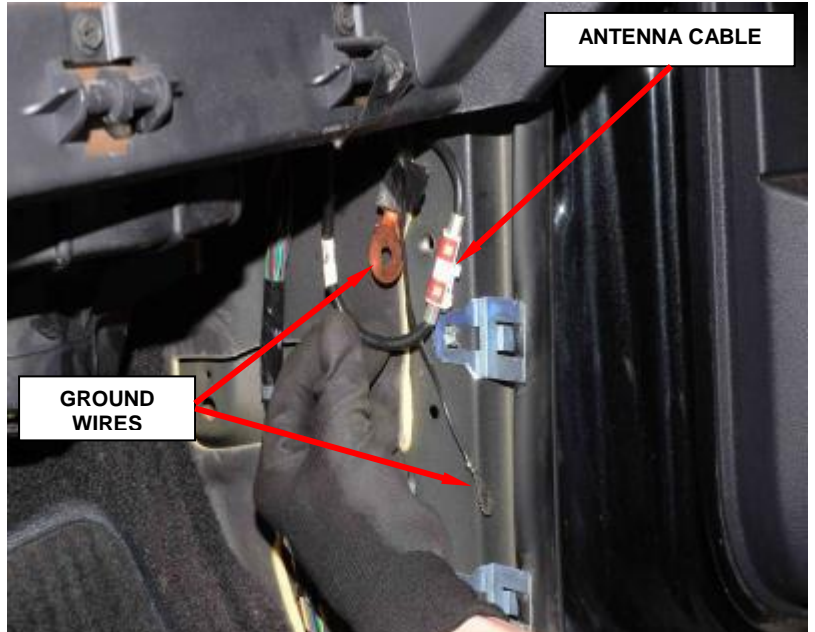
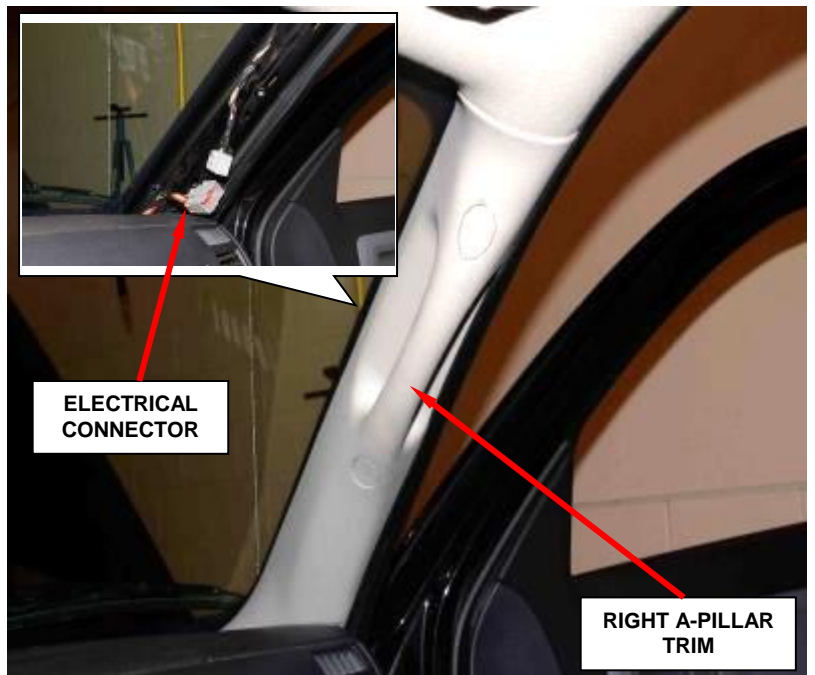

Figure 82 – Ground Bolt and Nut
Figure 83 – A-Pillar Trim (Right Side Shown)
26. Remove the bolt and nut and disconnect the grounds on the right A-pillar (Figure 82).
27. Disconnect the antenna cable (82).
28. Remove the right and left side A-pillar trim (Figure 83).
29. Disconnect the right side A-pillar electrical connector (Figure 83).